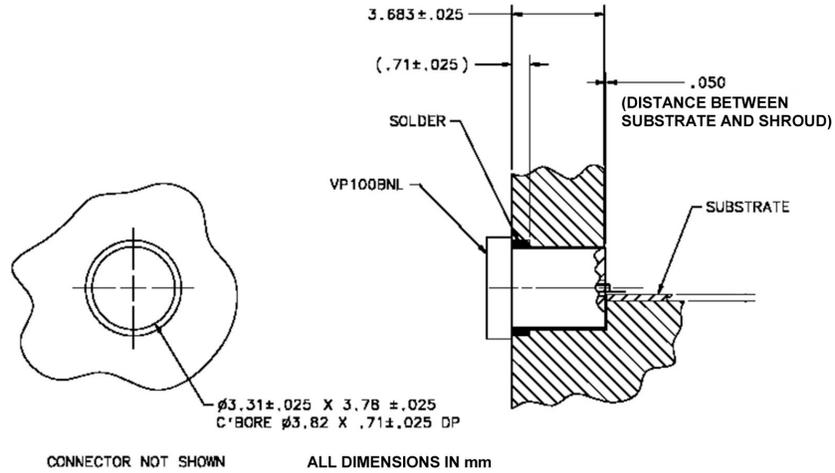

Figure 2. VP100BNL Mounting Hole Dimensions and Assembly Drawing for Thick-wall housing
Machining dimensions for the shroud mounting hole are shown in Figure 2.
- For a thick-wall housing place three to four solder preform washers on the shroud and place the shroud into the housing as shown in Figure 2.